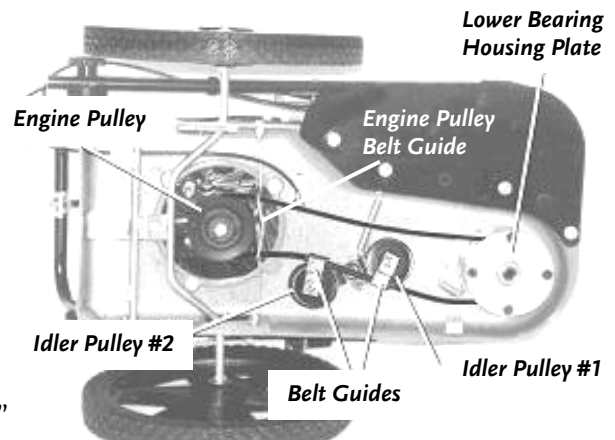

Figure 25
6. Install the new Belt. Be sure the Belt is on the inside of Idler Pulley #2, the outside of Idler Pulley #1 and correctly fitted around the Engine Pulley and in between the Engine Pulley Belt Guide (**Figure 25**).
7. Replace the Lower Bearing Plate, being sure to align the notch with the locking tool hole in the side of the Trimmer Housing and install the four (4) set screws in this order: Install one (1) set screw and make snug, then install and snug the set screw opposite it. Repeat for the remaining two (2) set screws.
8. Tighten all four (4) set screws in the same pattern. Do not over tighten.
BEFORE REPLACING THE BRAKE ARM, CHECK THAT THE MOUNTING OF THE BELT IS ON THE CORRECT SIDE OF THE IDLER PULLEYS (SEE *FIGURE 25* ON PAGE 35), AND NOT FRAYED, WORN OR STRETCHED. ALSO, SEE ADJUSTING THE TRIMMER HEAD BELT TENSION THROUGH THE TRIMMER CONTROL CABLE ON PAGE 42.